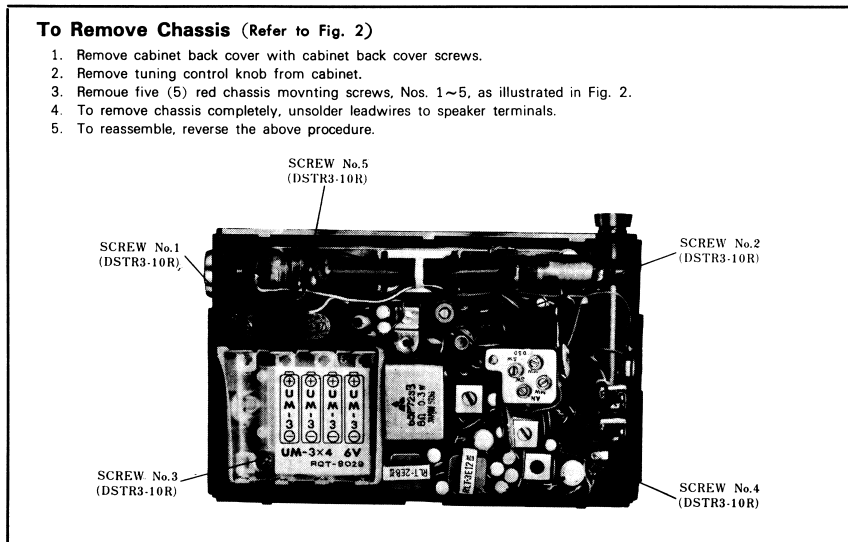

Fig. 2 Top View - Disassembly Points.
To Remove Chassis (Refer to Fig. 2)
3. Remove five (5) red chassis mounting screws, Nos. 1~5, as illustrated in Fig. 2.